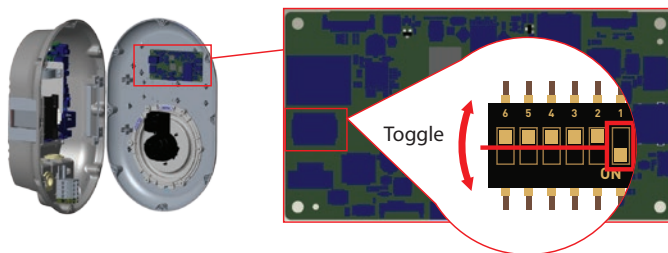

Figure-27
- Toggle the first position of DIP switch which is on the smart board of the charger shown in figure-27. After that please turn on the charger again.